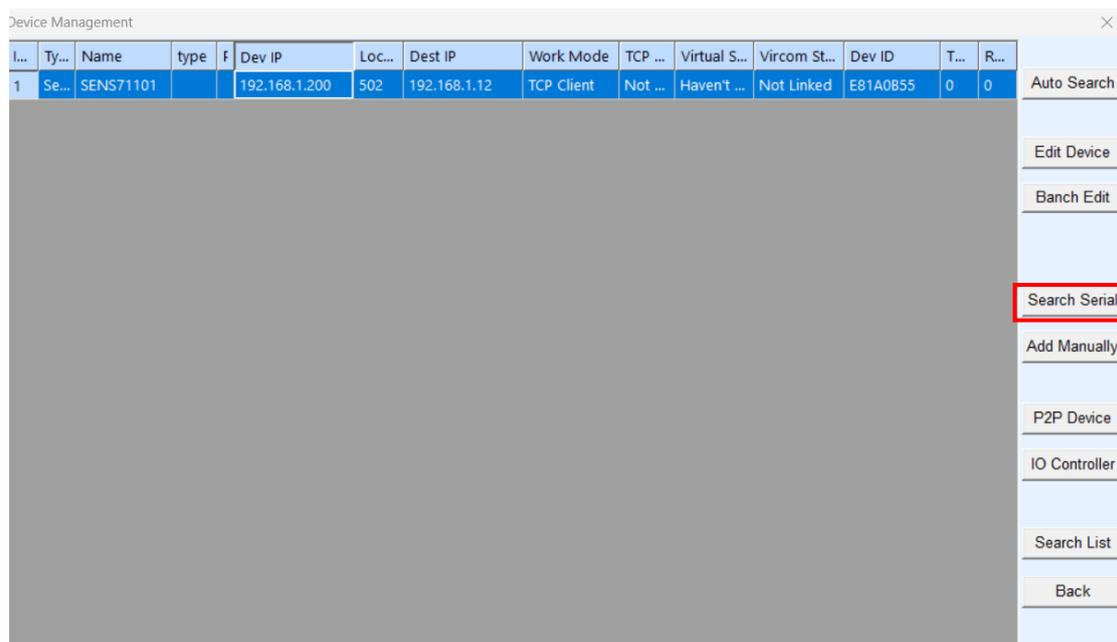

Fig.2 Device management
2. In the Device Management interface, click on "Search Serial" as shown in the figure 2. Then, select a baud rate and COM port. After that, click on "Search," and the device will be connected.